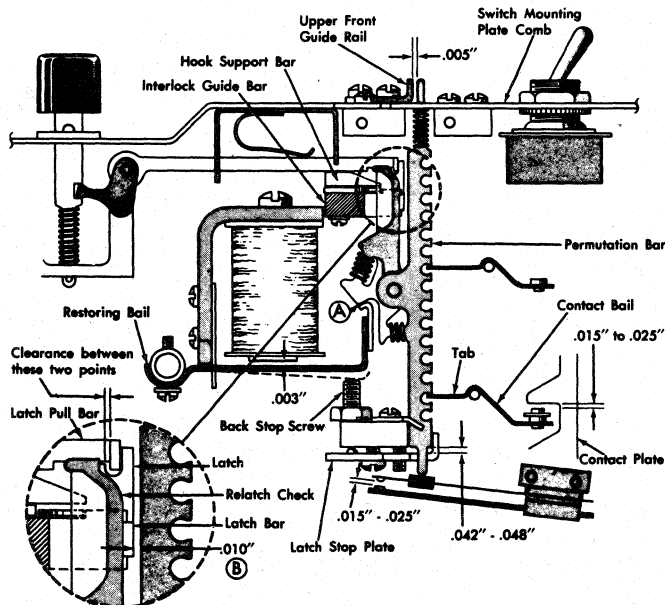
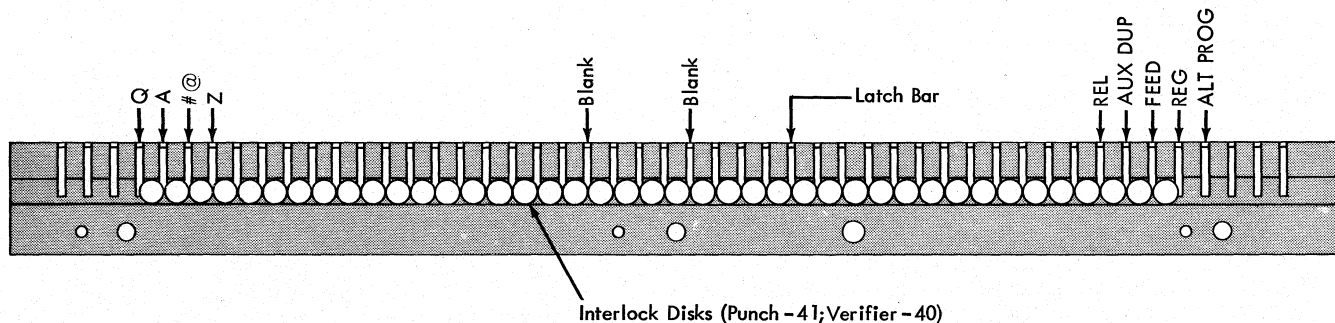
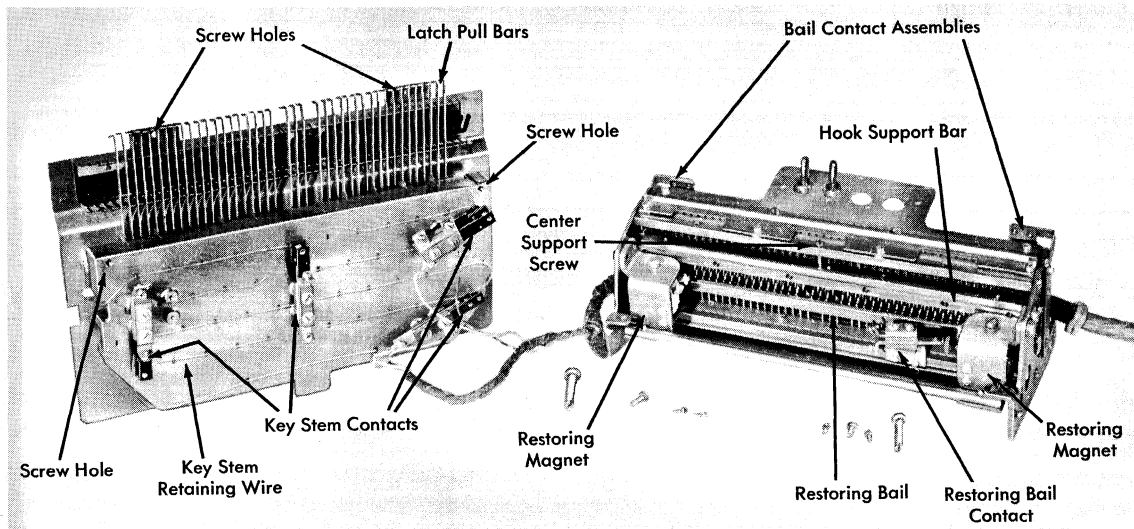

Figure 91. Keyboard Adjustment
Figure 94. Keyboard Interlock Disks
Figure 95. Keyboard Permutation Units
ADJUSTMENT (Figure 91)
1. With all latch assemblies restored, insert .003-inch gage between armature and magnet core and hold them sealed. Position magnet brackets evenly until restoring bail meets all latches at A, Figure 91. This should result in .010-inch maximum overtravel of latching point with gage removed.
2. Position comb for .010-inch, $\pm .005$ -inch, clearance between latch bar and permutation bars (B, Figure 91).
2. Position key unit evenly for clearance of latch pull bar to latch; see inset, Figure 91. Pressure of 65-grams to 85-grams should trip any key operating a latch assembly and interlock disk (except the space key which should be tripped by 85-grams to 110-grams). See Figure 94. Keys that do not operate latch assemblies should travel $\frac{5}{32}$ -inch with 55-grams to 70-grams pressure applied to them.
Key Unit. To separate keyboard into its major units, remove the four screws as shown in Figure 95. Be careful when sliding key unit out of permutation unit: the Y pull bar may hook on center support screw. It is not necessary to remove any wires if the removal is merely for inspection. Untie nylon key stop wire at end where it is fastened to permutation unit. **NOTE:** Do not oil or grease hook ends of latch pull bars. On reassembly, check clearance of latch to pull bar (Figure 91).
2. Lift key from unit while end of latch pull rod is held up and clear of latch. Be careful that key stem spring does not drop into unit. Refer to Figure 91.
2. Remove wires from all key stem contacts and the two restoring magnets (Figure 95).
11. Remove center support screw from upper latch assembly guide (Figure 95).
12. Set unit on its back. Hold hook support bar (Figure 95) while removing the three screws that hold it. Also, remove pivot screw.
not interlocked. Figure 94 shows the correct position of the 41 interlock disks for the IBM 24-26 keyboard. A numeric keyboard has 17 interlock disks.
4. Replace top plate and key stems. Check clearance of latch to pull bar (Figure 91).